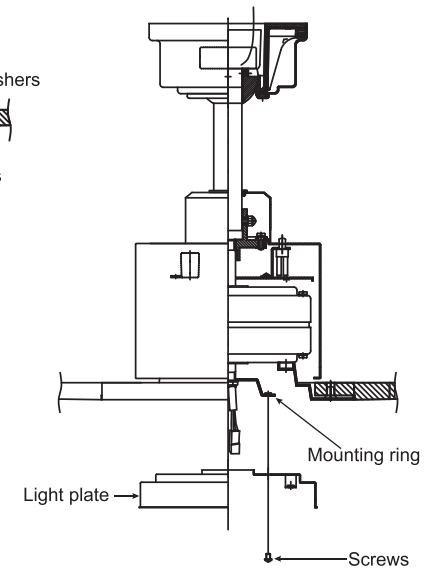

Fig. 17
Step 1. Loosen the two screws on the mounting ring attached to the motor shaft and "remove" and save the third screw. (**Fig. 17**)